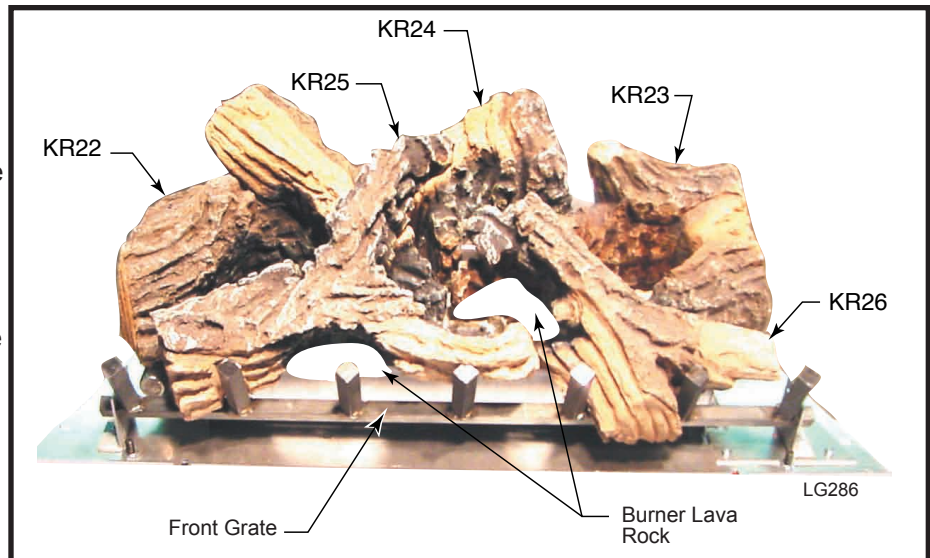

Fig. 23 LHEC30 and LHER30 log and lava rock placement.
LHECDV30, LHERDV30 (Fig. 23)
- a. Place the rear center log (KR24). Use the log's bottom holes to locate it onto the two (2) pin studs of the rear log bracket on the center.
- b. Place rear left log (KR22). Use the log's bottom holes to locate it onto the two (2) pin studs of the rear log bracket on the left.
- c. Place rear right log (KR23). Use the log's bottom holes to locate it onto the two (2) pin studs of the rear log bracket on the right.
- f. Place the burner lava rock on the front area of the burner housing. (Fig. 23)